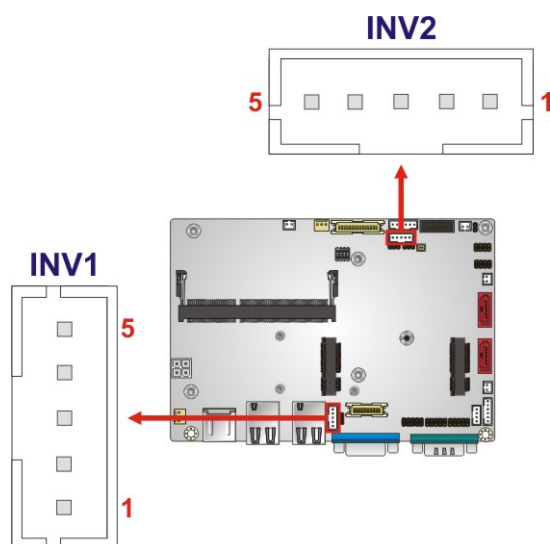

Figure 3-5: Backlight Inverter Connector Locations
- CN Location:** See Figure 3-5